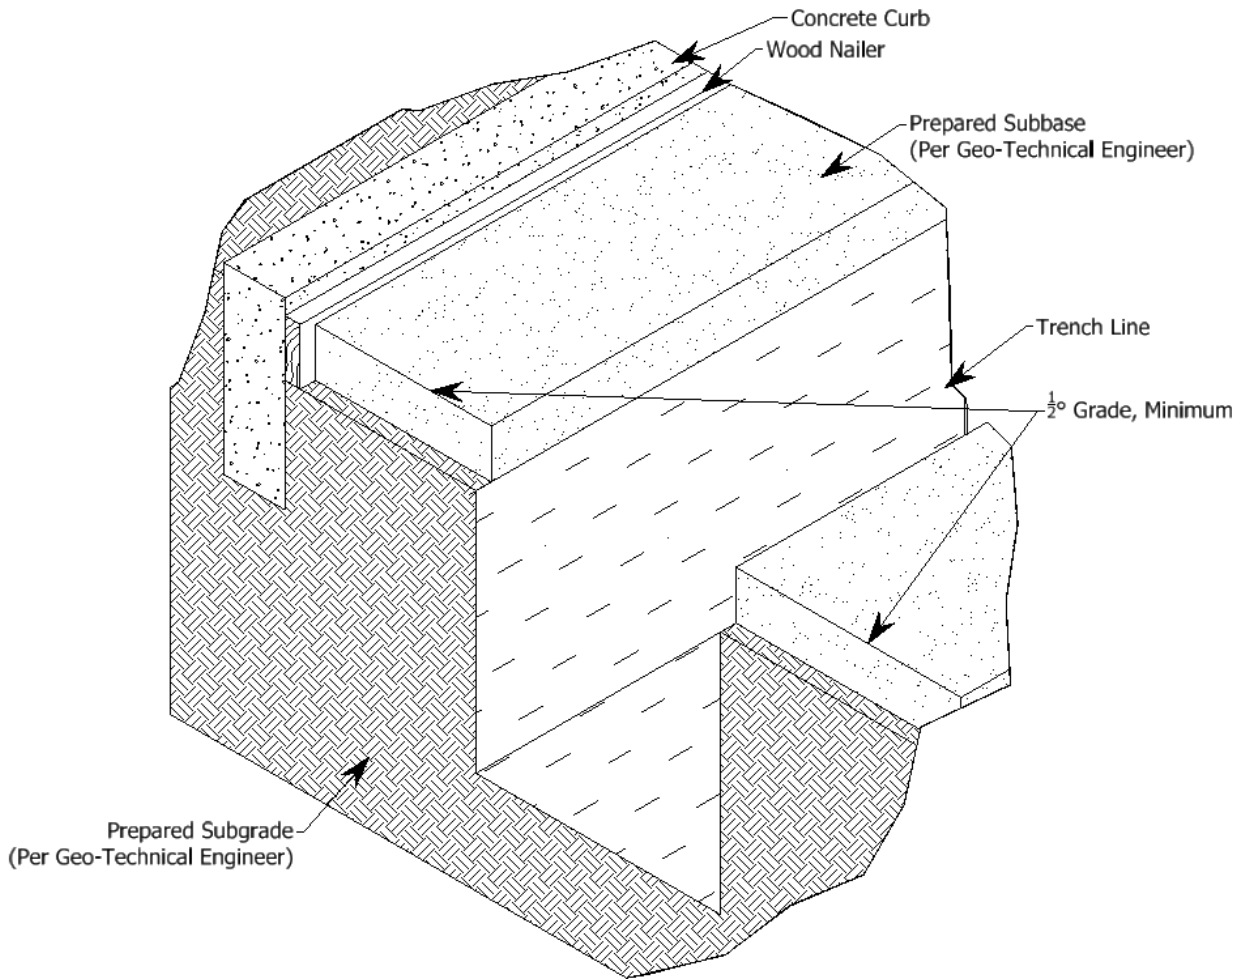

Figure 1
2. Once the sub-base and/or sub-grade is completed to specified tolerances it shall be inspected, approved and certified by the Licensed Geo-Technical Engineer and the Field Engineer (sub-base and/or sub-grade elevations specified by Field Engineer). Next the trenches are to be neatly excavated with free standing sidewalls and kept free of loose debris in excavation bottom. Trench excavation to be laser graded to plan elevations as dimensioned by Field Engineer and as shown on project plans. See Figure 1 for typical trench excavation illustration.